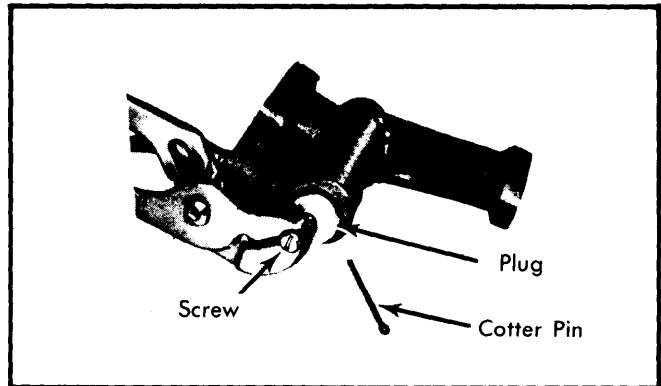

Fig. 21 Removing Oil Pump Relief Valve Plug
2) Remove cotter pin securing relief valve plug. To remove plug, drill a small hole in plug and insert a self-tapping screw. Use pliers to remove plug from housing as shown in Fig. 21. Remove spring and valve from housing.